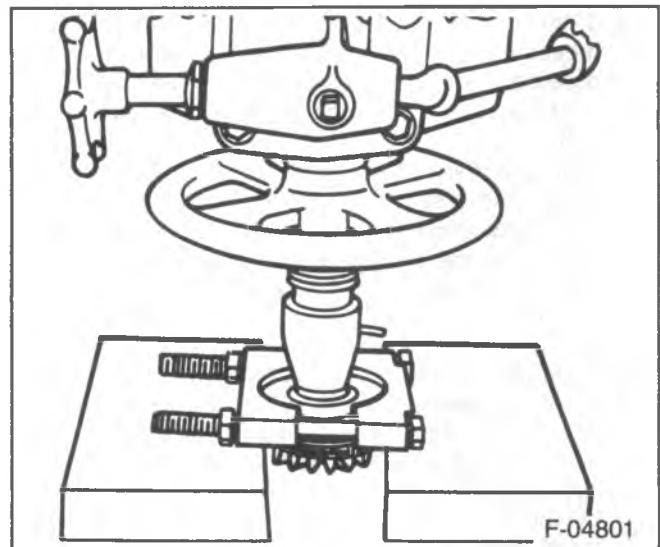

Figure 193—Removing the Thrust Ring
- Measure and record the overall length of the gear assembly from the front of the gear to the back of the thrust sleeve (14) including the side gear washer (13).
1. Thrust sleeve (14) using J-22910-01.
- Press the sleeve from the side gear (figure 193).
3. Guide clips (20).
5. Cam plate (16).
6. Cam side gear (21).